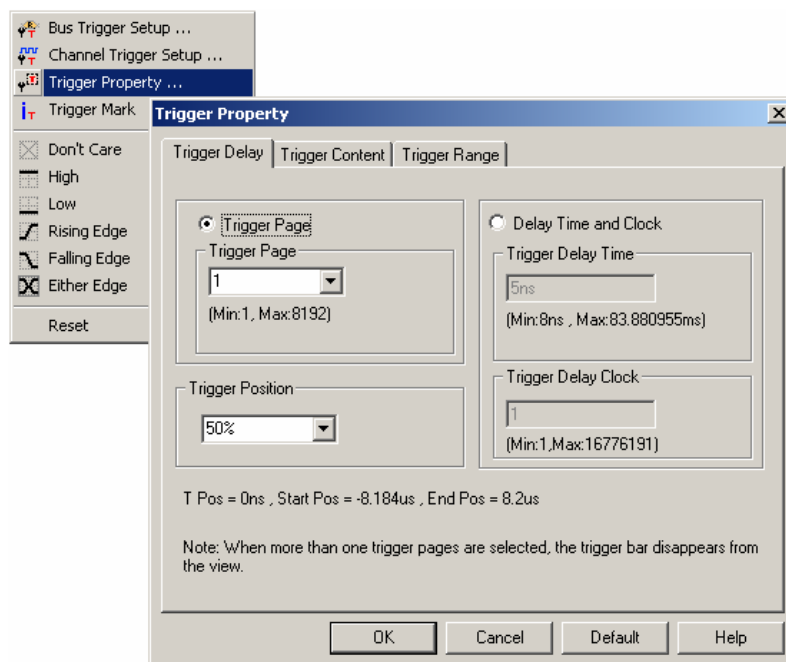

Fig 4-5 - Trigger Property
Step1. Click  icon or click **Trigger Property** from the **Trigger** on the Menu Bar. The dialog box will appear as shown in Fig 4-5.